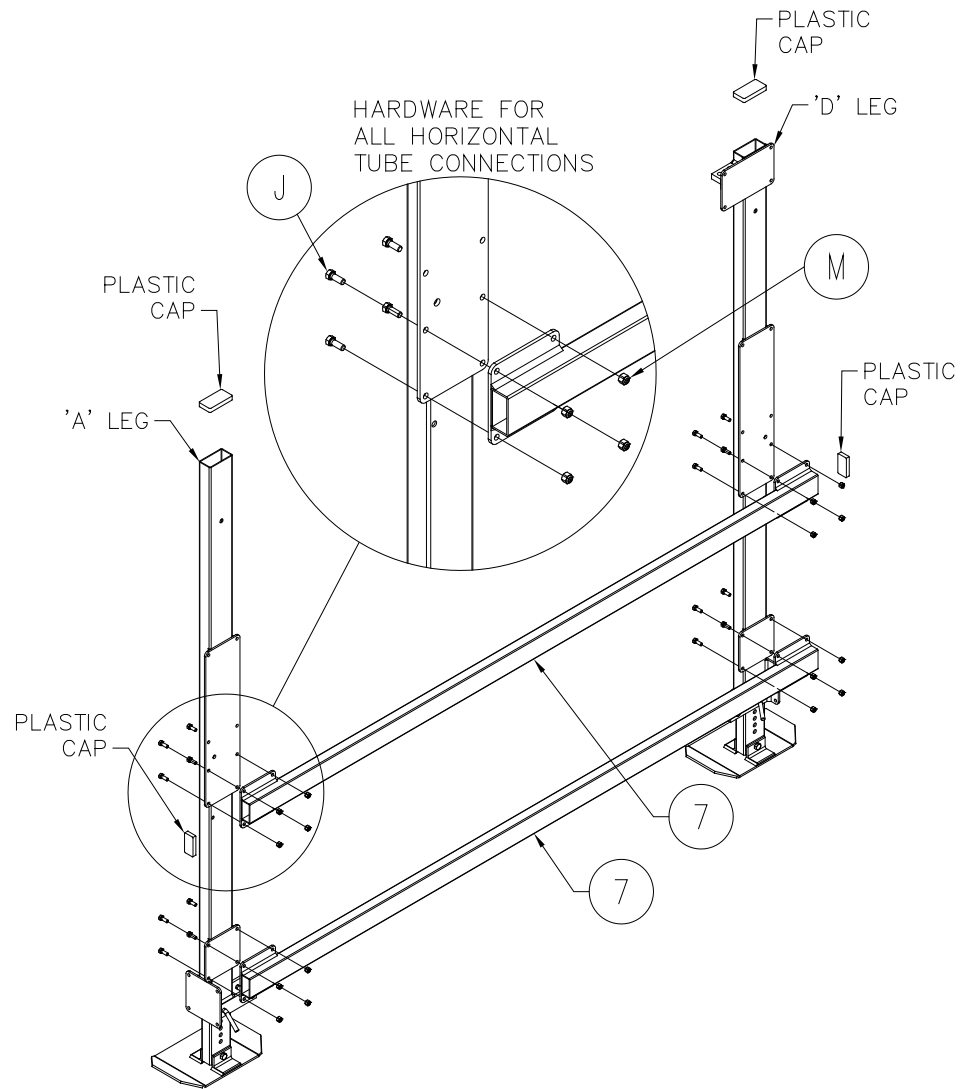

Figure 3-4.
1. Refer to Figure 3-4. Fasten a pair of short horizontal tubes between vertical legs A and D with hardware shown. DO NOT TIGHTEN.
5. Fasten a long horizontal tube across each end to connect the two sides using hardware shown in Figure 3-4. **DO NOT TIGHTEN.**
7. Install the eight (8) plastic caps provided onto the tops of the four vertical legs and the ends of the upper short horizontal tubes. See figure 3-4.